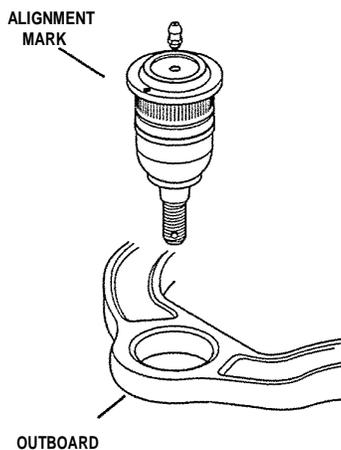

FIGURE 1
7. Position the new ball joint in the upper control arm with the drilled-hole alignment mark facing outboard toward the wheel (SEE FIGURE 1).